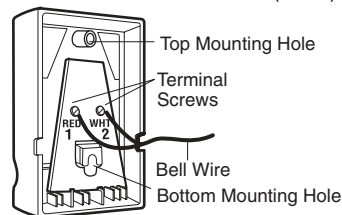

Figure 4 REMOVE COVER
- Remove cover by gently prying at slot in top of the cover with a small flat head screwdriver (Figure 4). Fasten with 6ABx1-1/4" self-tapping screws (drywall installation) or 6-32x1" machine screws (into gang box) as follows: